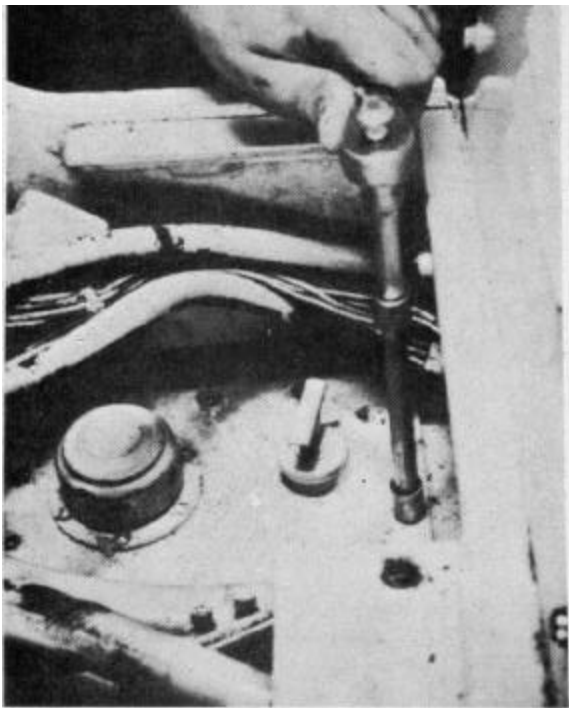

Figure 5-137
9. Remove (18) 1/4-20 x 5/8" long mounting bolts from the access cover using a 7/16" socket wrench and a 7/16" box wrench (Fig. 5-137).
15. Attach the access cover by installing the (18) bolts (Fig. 5-137, step 9).